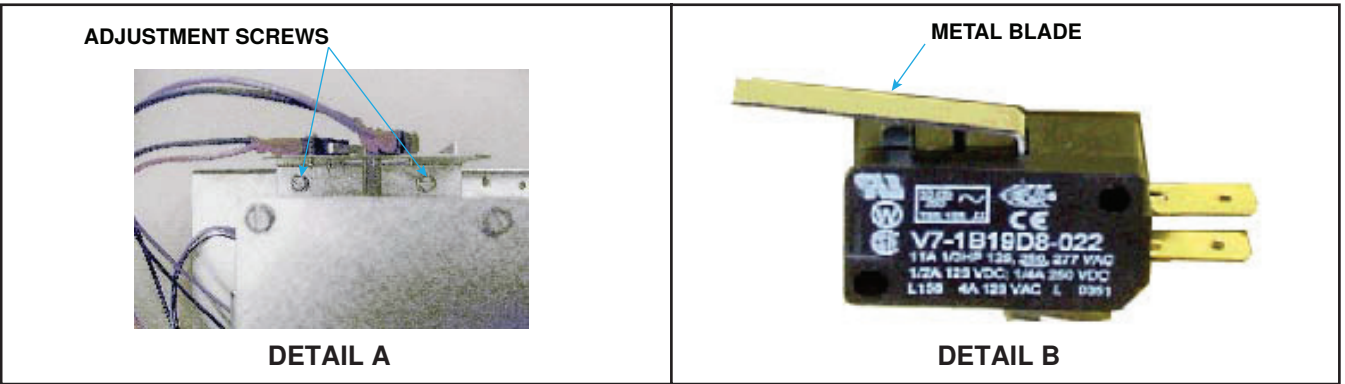

Figure 12. End Switch Adjustment
9. Set system control to call for heat and vary control settings to observe for proper opening and closing of damper. If damper door does not fully close or open properly, loosen adjustment screws shown in **Figure 12, DETAIL A** and slide end switch back and forth until proper operation is obtained. If necessary, carefully bend metal blade shown in **Figure 12, DETAIL B**.